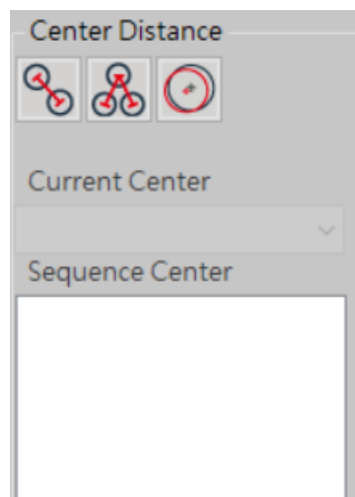
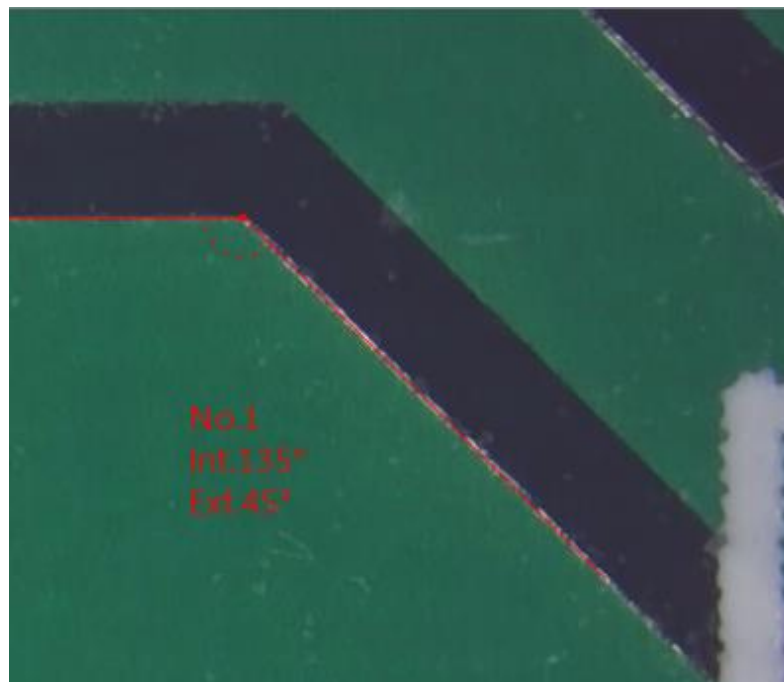

Fig 5-10 Center Distance
Fig 5-14 4 Point Angle
(10) Center Distance: This function is only enabled after using Two Point Circle or Three Point Circle. There are three measure functions for Center Distance. See Fig 5-10.
(11) 4 Point Angle : When measuring the Angle that can apply  tool. As Fig. 5-10 shown, firstly draw a line segment on one side of Angle, then draw 2nd line segment on the other side of Angle, that can know the angle. In the Fig. 5-14, the inner angle is Int.135°, the external angle is Ext.45°, the dotted Arc is the measured angle.